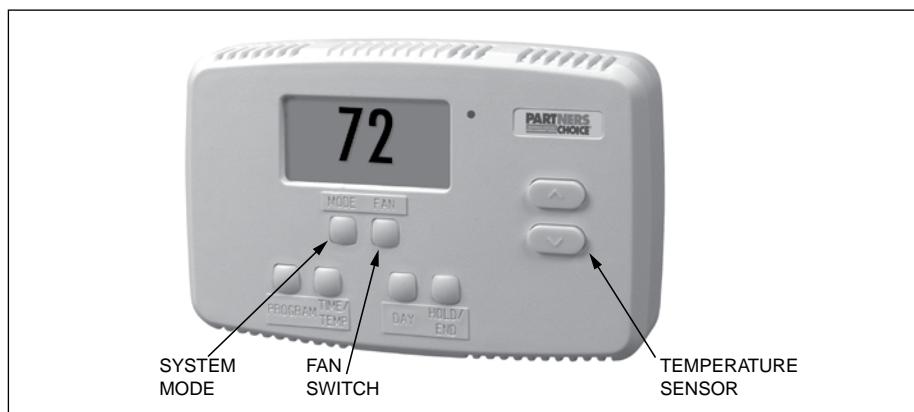

Figure 1. Typical Thermostat
1. Set the thermostat system mode to COOL and the thermostat fan mode to AUTO. **See Figure 1.**
1. Set the thermostat system mode for HEAT and the thermostat fan mode to AUTO. **See Figure 1.**